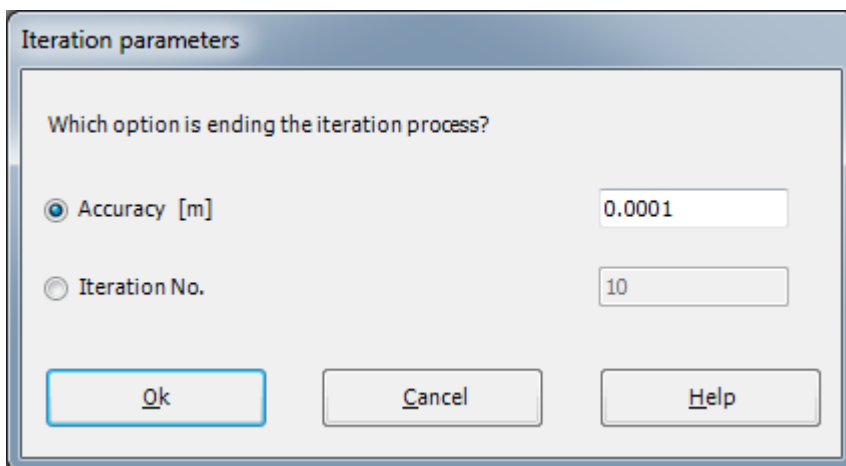

Figure 3.38 "Iteration parameters" option box
- Choose "Computation of all" command from "Solver" Tab. The following "Iteration parameters" option box in Figure 3.38 appears